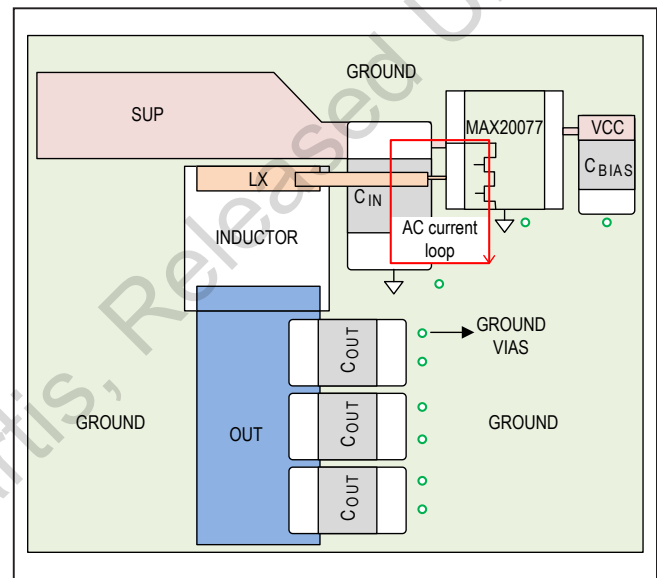

Figure 2. Recommended PCB Layout for the MAX20077/MAX25277
- 1) Place the input capacitor (C_{IN}) close to the device to reduce the input AC-current loop. AC current flows on the loop formed by the input capacitor and the half-bridge MOSFETs internal to the device (see Figure 2). A small loop would reduce the radiating effect of high-switching currents and improve EMI functionality.